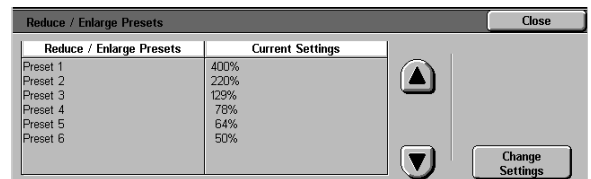

Figure 63: Reduce/Enlarge Presets screen
- 1 On the Tools screen, touch the **Reduce/Enlarge Defaults** button to display the Reduce/Enlarge Presets screen, as illustrated in Figure 63.